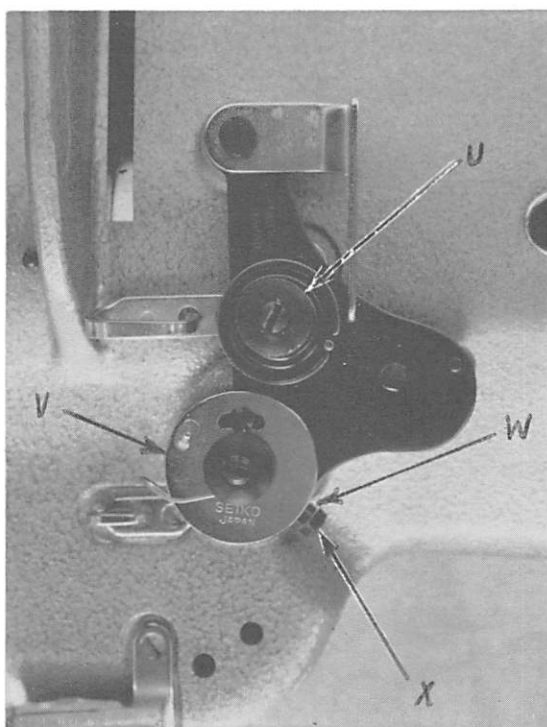
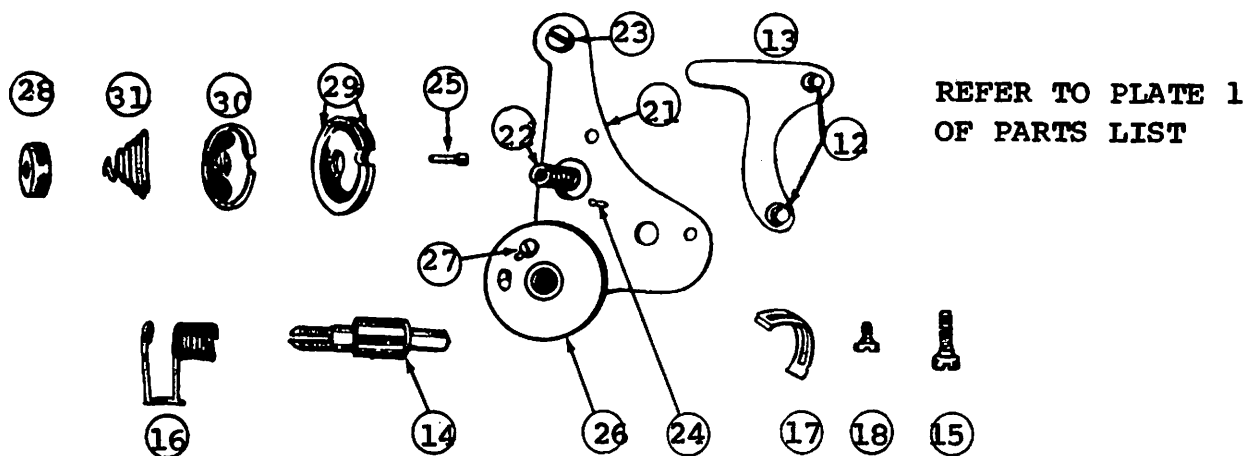

FIG. 11
FIG. 12
- i) Normal Operation. The tension and thread controller is composed of two tension controlling components, one assembled on the tension stud "U", (fig. 11) and the other assembled on the thread controller "V", (fig.11). The individual parts are shown in fig. 12. The spring and discs on the tension controller place tension on the thread when the presser foot is down. The spring in the thread controller pulls slack out of the thread between the time the thread take-up lever starts down and the needle point reaches the material.
- ii) Adjustments. The tension controller may be adjusted with the thumb nut "U" (fig.11) as explained in the paragraph entitled "Regulating the Thread Tension" on page 7 of the "Operating Instructions". The thread controller must be adjusted for the proper setting of the spring stop and for tension on the spring. The spring stop "17", (fig.12) is adjusted by loosening the screw "W", (fig.11) or "18", (fig.12) and rotating the stop enough to allow the spring to hold slack out of the needle thread while the needle is descending. The tension on the spring may be adjusted by loosening the screw "X", (fig.11) and rotating the stud "25", (fig.12) to the right or left as necessary to put tension on the spring "16", (fig.12). The amount of the tension will vary with kind of thread being used.